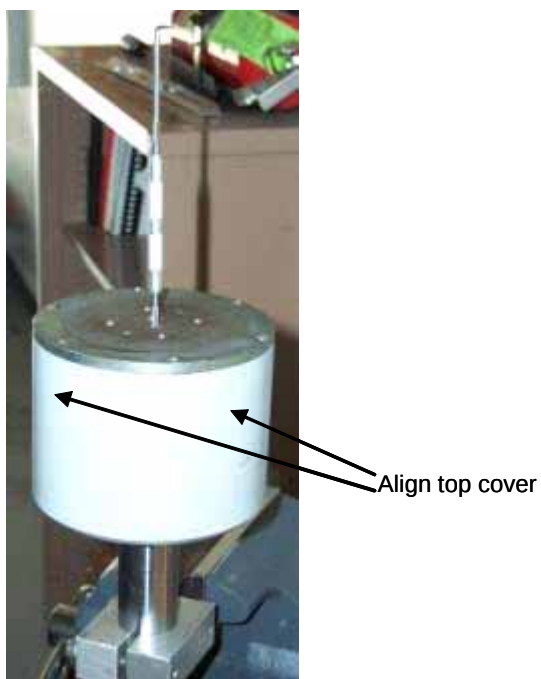

Figure 83. Align top cover.
14. Using an O-ring pick or similar tool, align the two center holes on the inner catch cover with the holes on the spring guide (figure 83). Use two M5 × 35 mm hex bolts and medium-strength thread locker to secure the top (figure 84). After tightening these two bolts, go back and tighten the four M6 x 60 mm hex bolts.